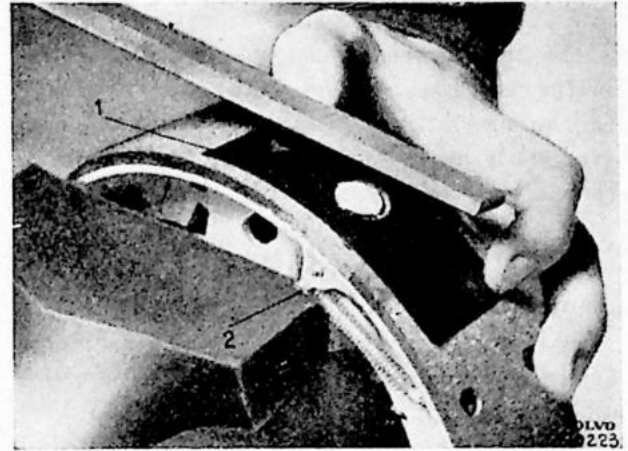

Fig. 21.
With the contact plug in its outer position fit the brake shoe in a vice with the lever projection (2. Fig. 21) resting against one vice jaw. This is to ensure that the plug cannot be pushed in during adjustment and in this way cause it to be faulty.
Place the adjuster jig (1) over the contact plug and then file until the plug is flush with the jig, see Fig. 21. The plug should then be 0,1 mm (.04") over the surface of the lining.